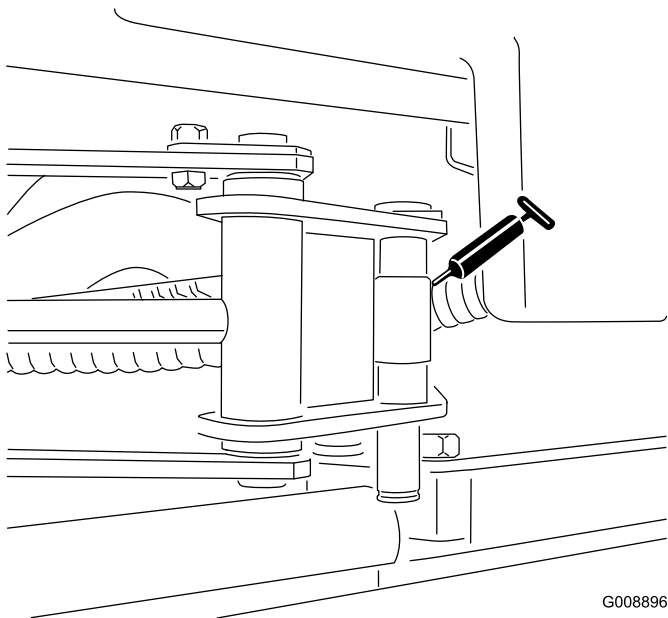

Figure 62
- Sidewinder cylinder ends (2 fittings; Model 03171 only—Figure 62)